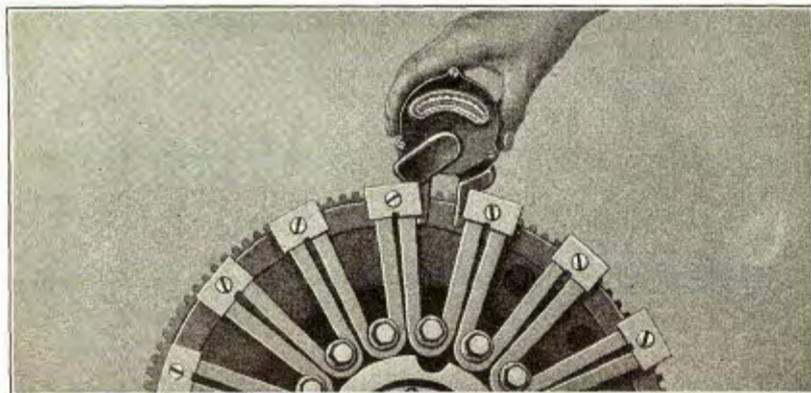

Fig. 188
- 276** The magnets are checked for strength with a magnet tester. The tester is placed between the ends of the magnets so that the poles on the tester come in contact with both sides of the magnet (See Fig. 188). The operation is repeated until each magnet has been checked. If the magnets are at full strength a reading of 50 units or more should register on the dial. (With the transmission cover removed the strength of the magnets can be checked in the car in the same manner, turning the engine over with the starting crank about one-quarter turn at a time until all of the magnets have been tested. With the magnet clamps positioned directly between the magneto coil cores, a reading of 45 units or better should register on the dial when magnets are checked in the car. When magnets are removed from the flywheel and checked individually a reading of 35 units or better should be obtained).